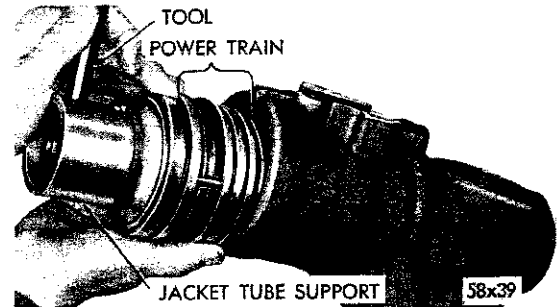

Fig. 30—Removing the Power Train
(9) Firmly install a suitable drift through the hole in the jacket support to engage the groove in the worm shaft, thereby locking these two parts together (Fig. 30).
(10) While holding the drift, pry on the piston teeth with a screwdriver using the gear shaft as a fulcrum and remove the complete power train.